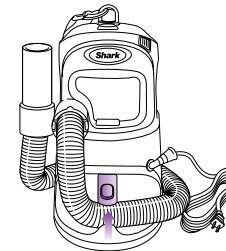

Fig. 21
- 2 Wrap the flexible hose around the base of the vacuum and hook the end of the flexible hose into the hose dock. (fig. 21) To release the hose, press the Hose Storage button.